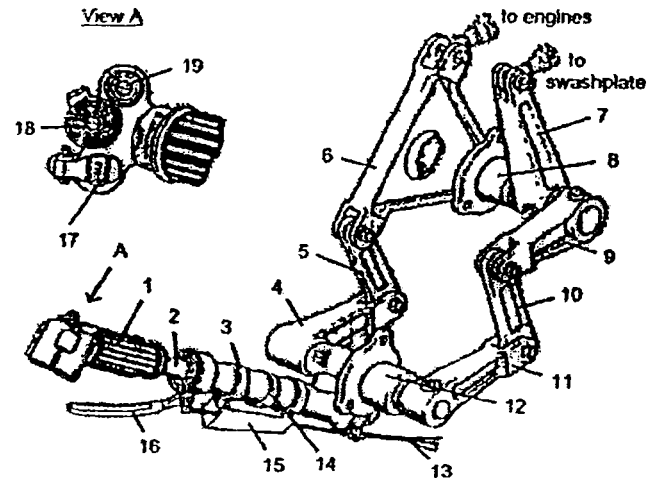

Figure 2-36 CPG's Collective Stick
The CPG's collective stick (Figure 2-36) is located to the left of the CPG seat. It includes a twist grip throttle control (1), a covered external cargo emergency jettison button (17), a searchlight control button (18), a CLUTCH RELEASE button (19), and a trigger lever (16) for engaging the CPG's flight controls. The trigger lever is linked via a cable system to the CPG's cyclic stick and pedals.